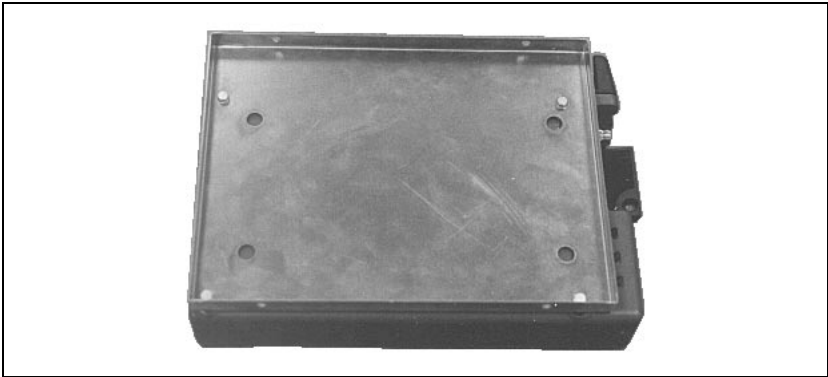

Figure 6. Radio Top Mounting Bracket Installation
3. Install the bottom mounting plate, 19D903778P1, using the four 10 x 32 screws and washers supplied. Refer to Figure 6 to view an assembled unit. When installed correctly, the mounting plate will be approximately centered, side-to-side, in the weatherproof box. The lips on the mounting plate will be face down, the rubber pad is topside.